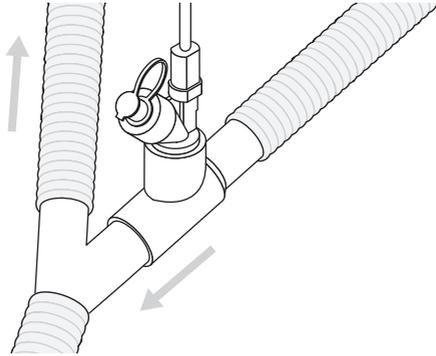

Figure 5. Connecting the Aeroneb Solo to a breathing circuit
1. For 22mm adult breathing circuits connect the nebulizer with adult T-piece into the inspiratory limb of the breathing circuit before the patient Y (Figure 5).
Note: Figure 5 shows adult configuration only